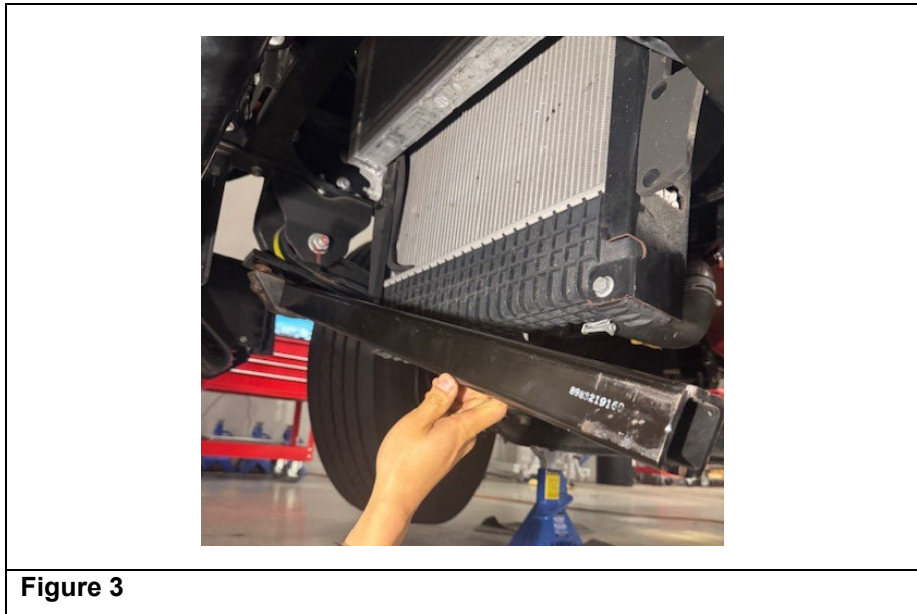

Figure 3
4. Slide the stabilizer bar out towards the driver's side (slightly loosen the passenger side stabilizer bar bracket nuts as necessary). (See Figure 3.)